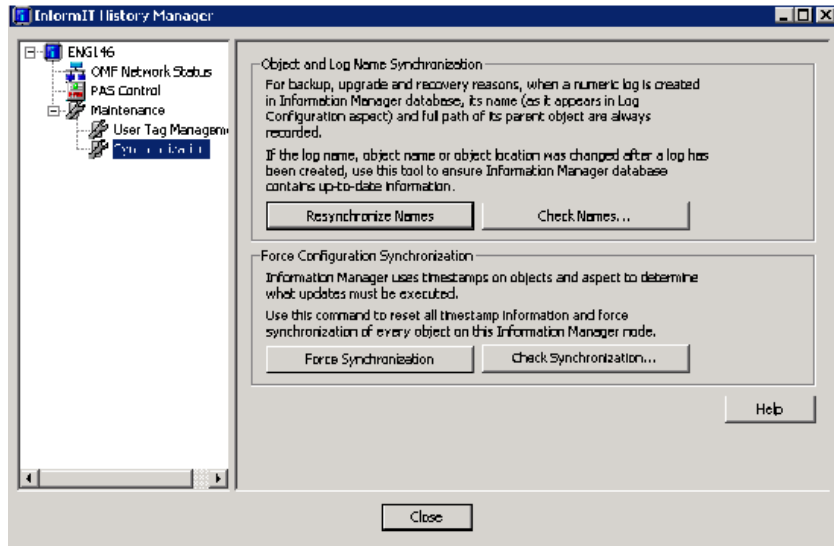

Figure 50. Inform IT History Manager
5. Expand the Maintenance tree in the Preview Area and select Synchronization. The Inform IT History Manager shown in Figure 50 appears in the Preview Area.